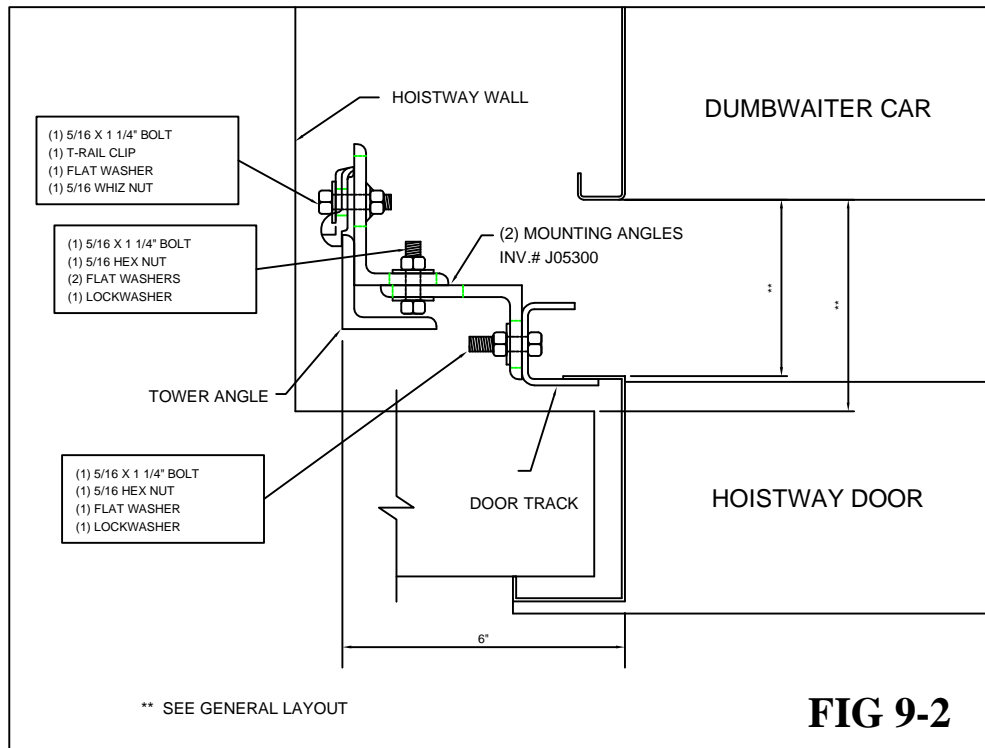

FIG 9-2
- 9b.** Mount the top of the door using the door rods or brackets supplied. There are several different methods to adjust and stabilize the top portion of the door. **See Fig 9-2 & 9-3** for some of the typical methods used.